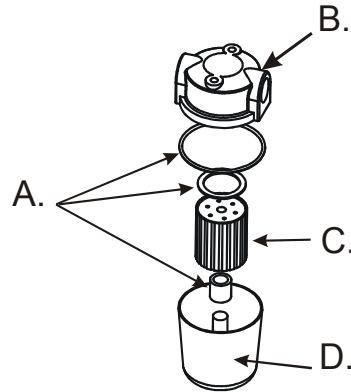

Figure 4 - Fuel line filter.
1. Make sure that the fuel tank (N Fig. 4) still contains fuel.
WARNING: Before the second ignition (machine extinguished and adequately cold) to assure the blocking of the screws that block the anterior deflector (L Fig. 4).
Before picking up or moving the machine you must check to insure that the tank caps (G Fig. 3) are tightly shut. The generator may be supplied with a rotating wheel. In this case, if the flooring allows it you may push the generator like a cart. In the case the machine does not have rotating wheels it is necessary to unblock the hinge (P Fig. 4) located on one of the lateral struts of the generator. Lower the handle from its "resting position" (Fig. 8) Turn the handle to the "transportation position" (Fig. 9). Lift the generator and position it so that it is resting on the two anterior wheels.